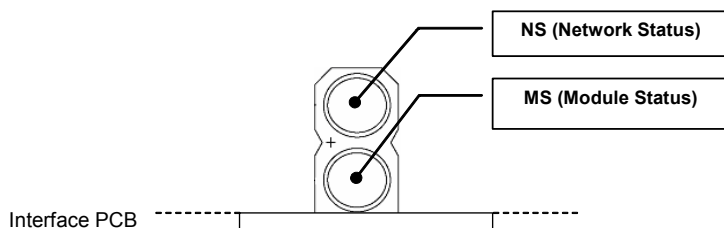

Figure 4: Ethernet/IP Status Indicators
The back side of the interface board contains two bicolor red/green status LEDs. The lower LED (situated closest to the interface PCB) indicates the Module Status (MS), and the upper LED indicates the Network Status (NS). Refer to Figure 4. These LEDs conform to the prescribed behavior as dictated in the Ethernet/IP specification, Volume 2, Chapter 9.